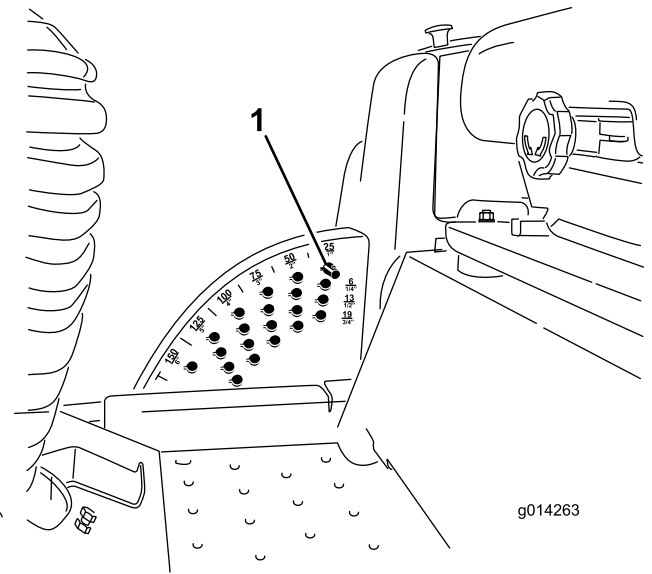

Figure 16
Note: To lock the mower deck in a raised position, raise the deck past the 15 cm (6 inch) position, remove the height of cut stop pin (refer to Adjusting the Height-of-Cut), and place the pin in the 15 cm (6 inch) height-of-cut position (Figure 16).
1. With the engine running, push back on the deck lift switch until the mower deck is fully raised and **release the switch immediately** (Figure 16).
2. To adjust, rotate the stop pin until the nub on it lines up with the slots in the holes in the height-of-cut bracket and remove it (Figure 16).
3. Select a hole in the height-of-cut bracket corresponding to the height-of-cut desired, insert the pin, and rotate it down to lock it in place (Figure 16).
Note: There are four rows of hole positions (Figure 16). The top row gives you the height of cut listed above the pin. The second row down gives you the height listed plus 6 mm (1/4 inch). The third row down gives you the height listed plus 12 mm (1/2 inch). The bottom row gives you the height listed plus 18 mm (3/4 inch). For the 15.8 cm (6 inch) position there is only one hole, located in the second row. This does not add 6 mm (1/4 inch) to the 15.8 cm (6 inch) position.